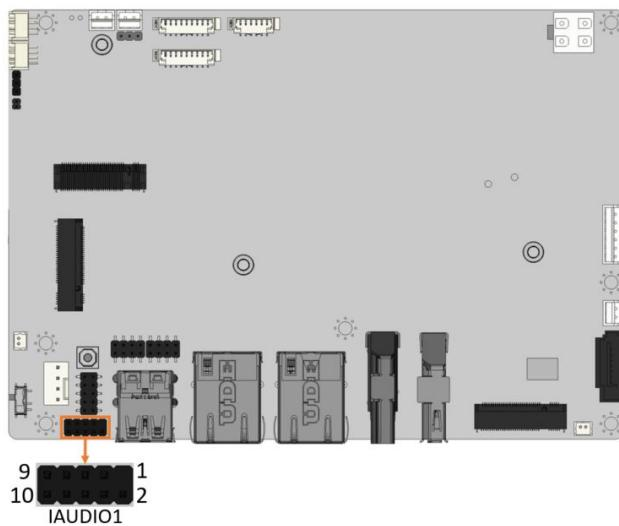

Figure 3-4: Audio Connector Location
- CN Location:** See Figure 3-4